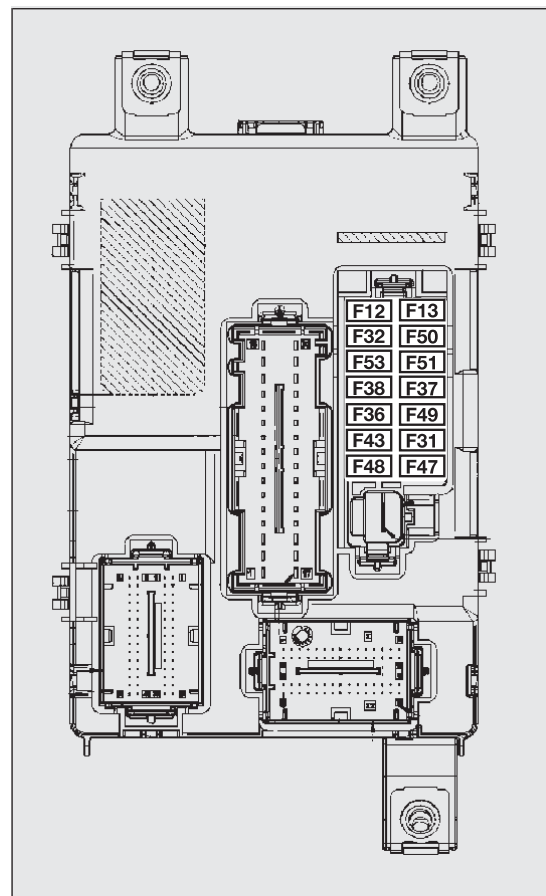

fig. 164
The fuses are positioned in the two areas shown in fig. 164.
**PROTECTED DEVICE - fig. 164**